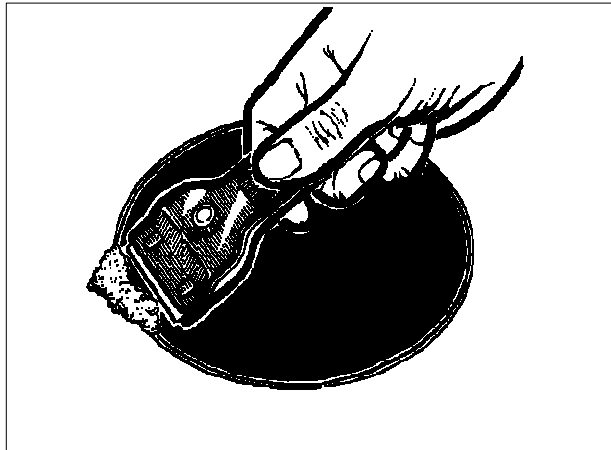

FIG. 3
- Tough, encrusted dirt is easily eliminated using a scraper (fig. 3). **Use the scraper carefully to avoid damaging the hob.**